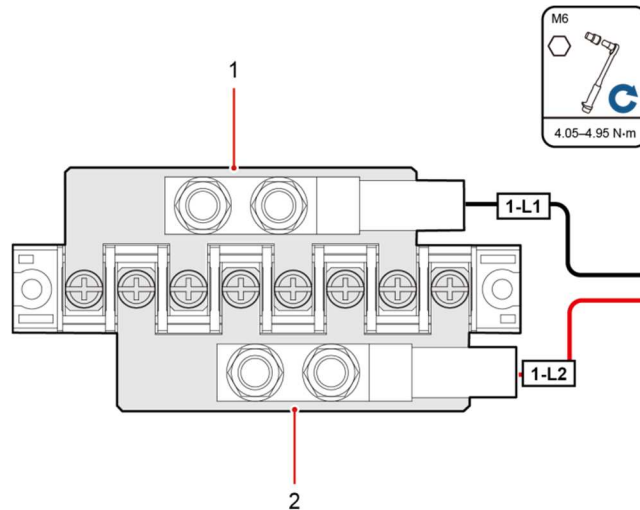

Figure 31 – Installing Power Cables for one AC dual-live Wire Inputs
Step 3 Secure the AC input OT terminals to the corresponding short-circuit copper bars, as shown in Figure 31.